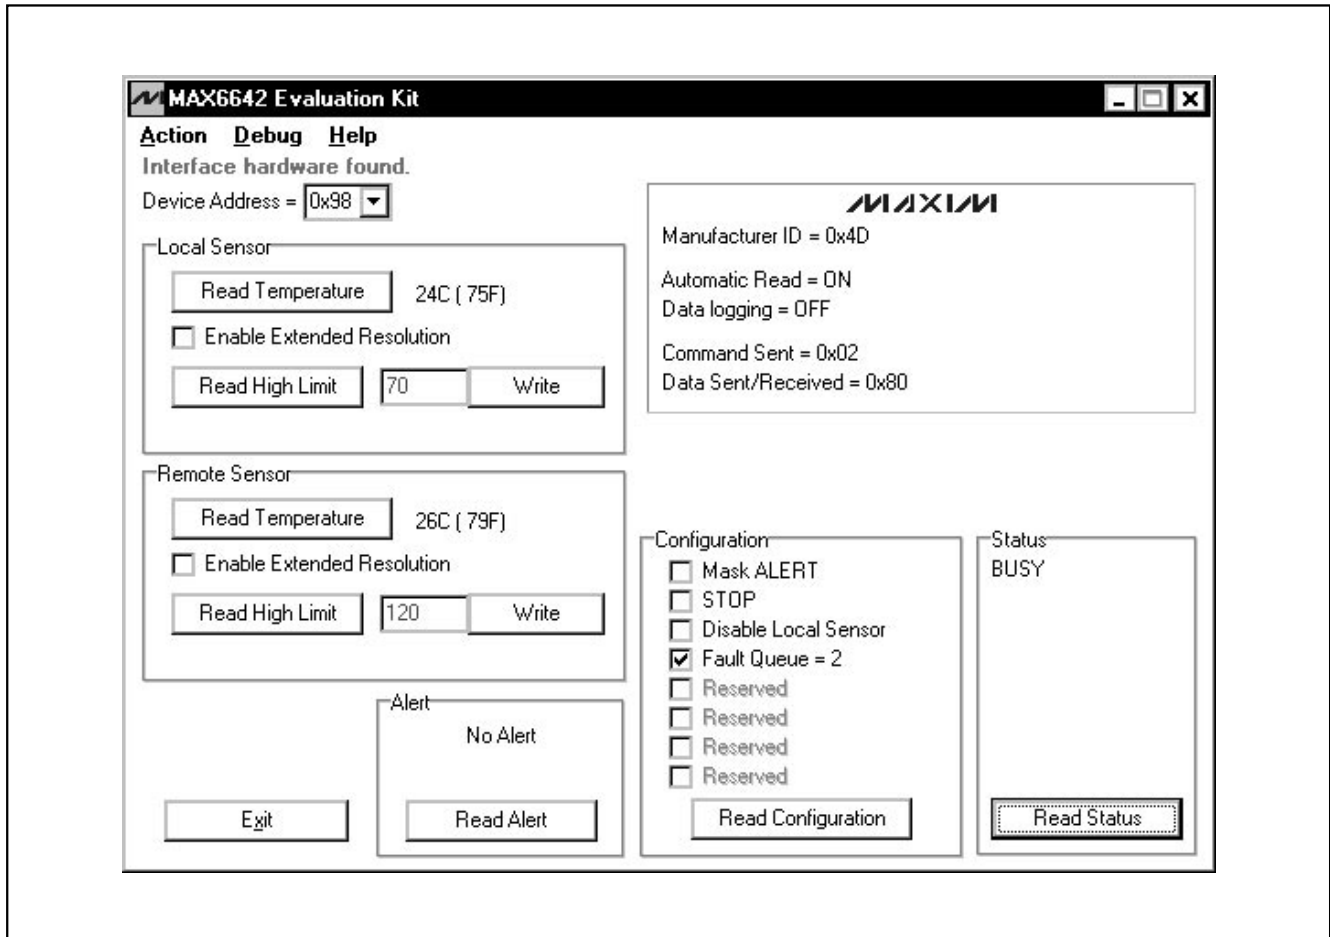

Figure 1. Main Window for the MAX6642 EV Kit Software
- 9) Wait until the program automatically detects the address of the MAX6642 and displays the user-interface panel (Figure 1).
The MAX6642 monitors its own temperature and the temperature of an external diode. All temperature measurements are capable of either 8-bit or 10-bit (extended) resolution; 8-bit resolution results in temperature resolution of 1°C/LSB. Extended resolution results in temperature resolution of 0.25°C/LSB. Enable extended resolution by selecting the **Enable Extended Resolution** checkbox (Figure 1).
Read the temperatures by clicking on the **Read Temperature** buttons (Figure 1). The temperature is shown to the right of the buttons.
Read the high limits by clicking on the **Read High Limit** buttons (Figure 1). The value (in Celsius) is shown to the right of the button. Change the limits by entering the value (in Celsius) into the appropriate edit field. Pressing Enter, after typing in the new value, updates the internal register.
The configuration register has several functions. Figure 1 shows the checkboxes that configure the register. Each checkbox corresponds to a bit in the register. Table 1 describes the function of each checkbox.
Read the configuration register by clicking on the **Read Configuration** button (Figure 1). The checkboxes are either checked or unchecked to correspond to the bits in the register.